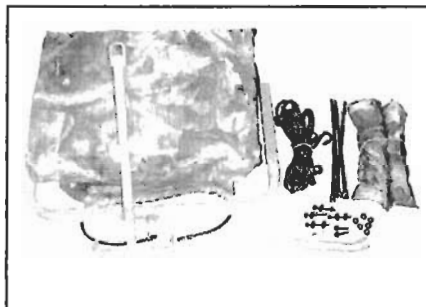

Fig. 1
Step 1. Remove all parts from the Trophy Chair box. You should have one (1) u-shaped arm rest bar, one (1) vertical support bar, two (2) wire support rods, one (1) seat assembly, two (2) arm rest pads, one (1) rope with coated S-hook, four (4) cable ties, two (2) 1-3/4" bolts with washers and nuts, four (4) 1-1/4" bolts with washers and nuts, and two (2) sheet metal screws. **Figure 1** shows all parts included with your Trophy Chair.